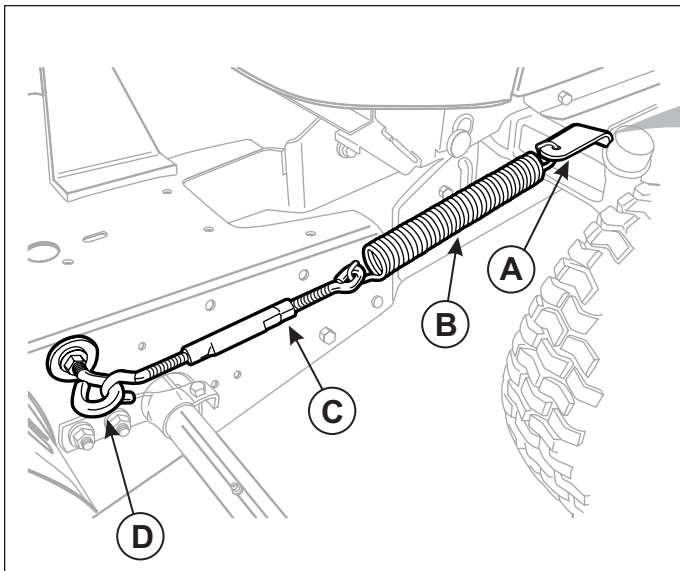

Figure 21. Adjusting Belt Tension
2. Loosen the turn buckle (C, Figure 21) and then remove the lift assist spring, turn buckle and axle clamp.